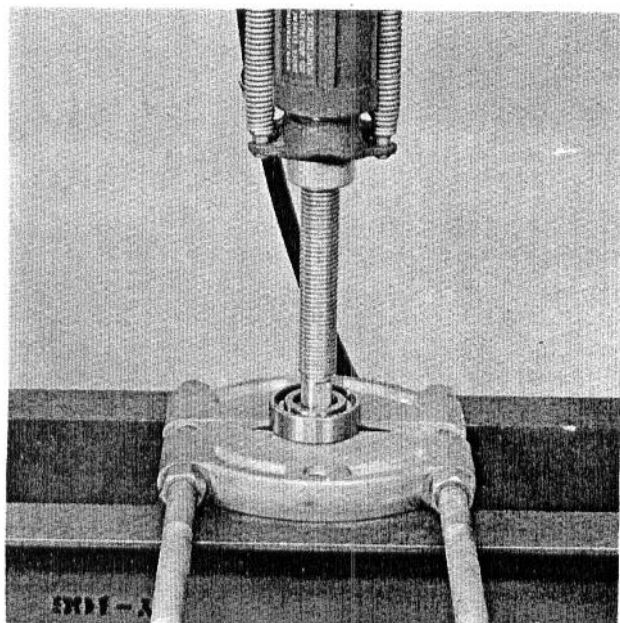

Fig. 57 - Removing Pilot Bearing
5. Press the pinion shaft from the pilot bearing as shown in Fig. 57.